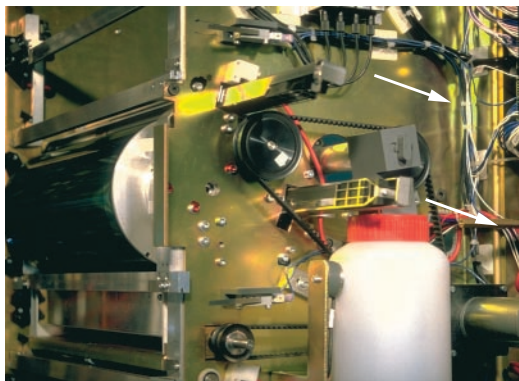

Figure 268. Removing a Scorotron
5. Each print tower has eight scorotrons (1 above and below each drum), and there is one located by the top roller in the fixed tower, for a total of seventeen. Remove each scorotron by sliding it carefully out of the guide bars, as shown in Figure 268.